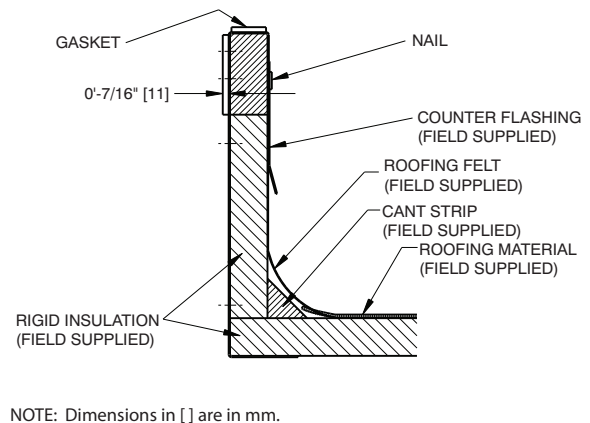

Fig. 5 - Roof Curb Weather Proofing
12. Weatherproof the roof curb. (See Fig. 5.)